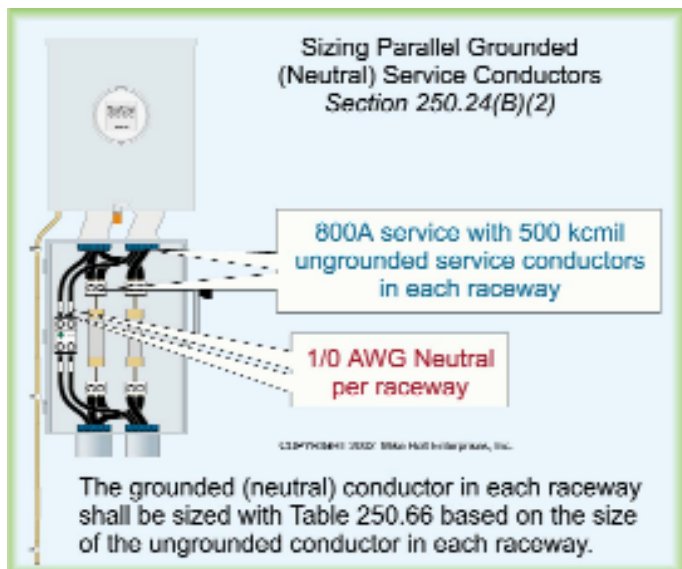

Figure 250-62
**Question:** What is the minimum size grounded (neutral) service conductor required for an 800A, 480V, 3Ø service installed in two raceways, if the maximum unbalanced neutral load is 100A? The ungrounded service conductors in each raceway are 500 kcmil. Figure 250-62